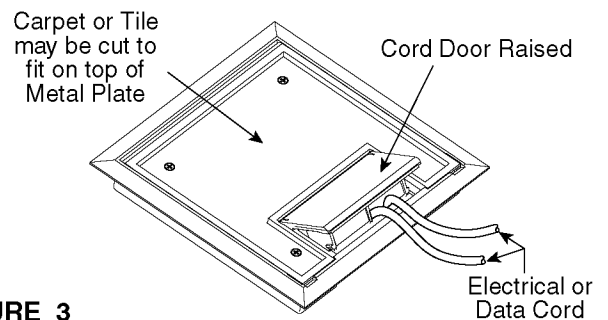

FIGURE 3
- 3) Close Lid. Keep Cord Door open when closing Lid. Route electrical and data cords out through opened Cord Door (see Figure 3).
- 8) Carpet or Vinyl Tile may be cut to fit top of metal plate and secure with adhesive (see Figure 3).